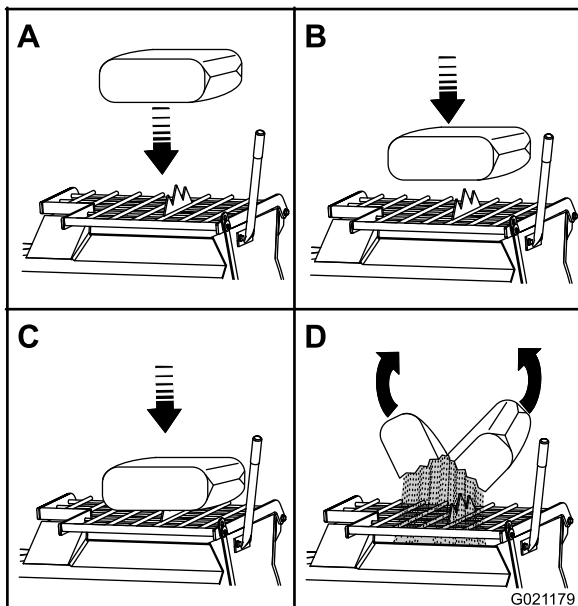

**Figure 31**
- Move the clutch lever to the OFF position (Figure 31).
- Move the clutch lever to the ON position (Figure 31).